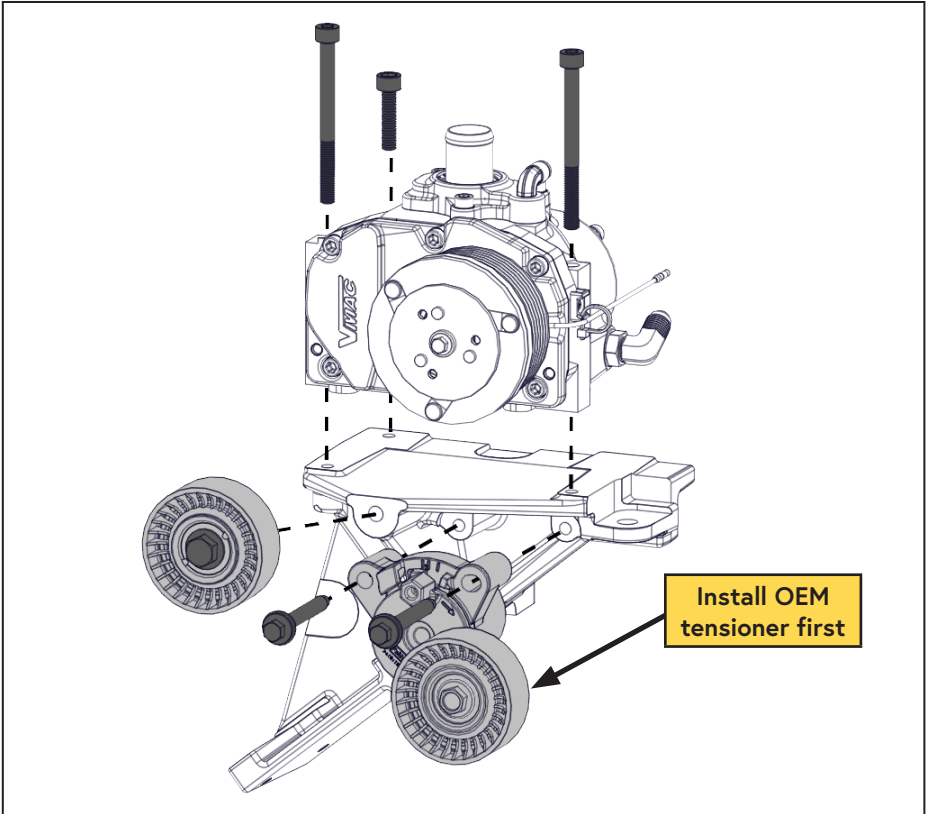

Figure 18 — Install main bracket components
- Install the OEM 4 rib belt tensioner on the VMAC main bracket using the original OEM bolts (Figure 18).
- Install the supplied idler onto the main bracket (Figure 18)
- Mount the compressor assembly onto the main bracket using the supplied fasteners (Figure 18).